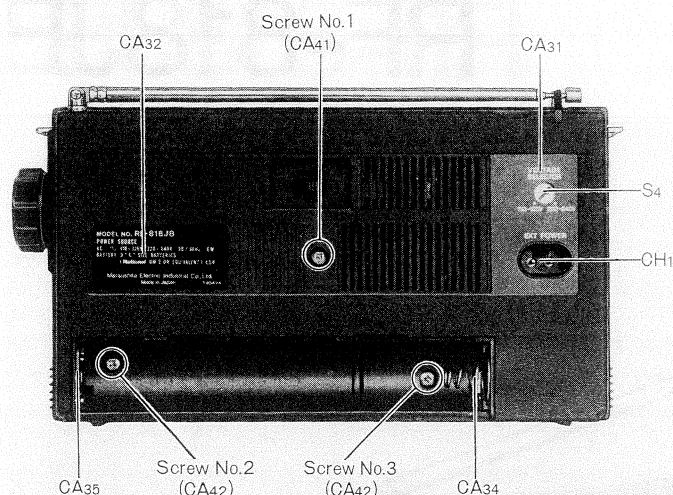

Fig. 1
3. Remove three (3) cabinet cover screws, nos. 1~3, as illustrated in fig. 1.
4. Pull out three (3) connecting sockets.